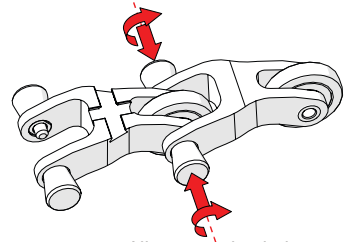

Fig. 53 - Align mounting holes
3. Twist the pins until they unlatch and extend into the hole of the connected component (Fig. 53).